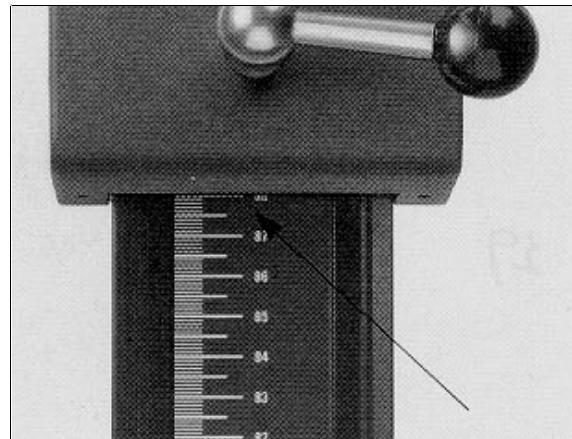

Figure 3-29. Column Scale
**Camera Column Scale:** When the column scale is read at the point shown in figure 3-29, it represents the film plane to baseboard distance.